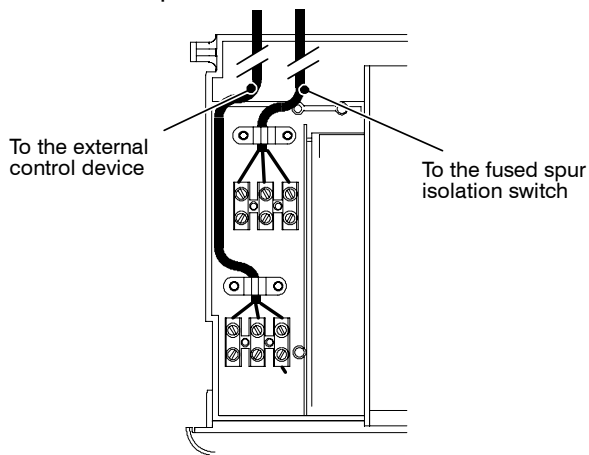

Fig. 6.15
- 9 Route the electrical supply flexible cord and the external control flexible cord as illustrated in Fig. 6.15.